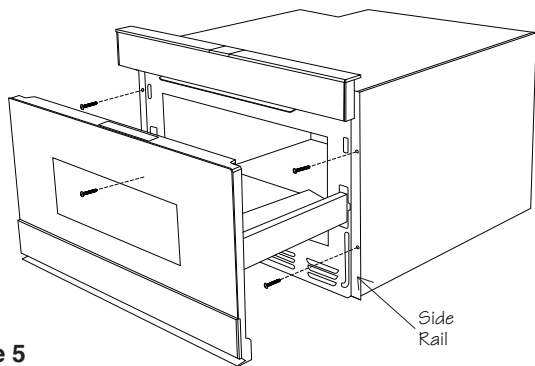

Figure 5
5. Open the drawer. Using the 4 holes on the drawer as a template, pre-drill the cabinet using a 1/16" (1.6 mm) bit. Secure the drawer with the 4 screws supplied. See Figure 5.